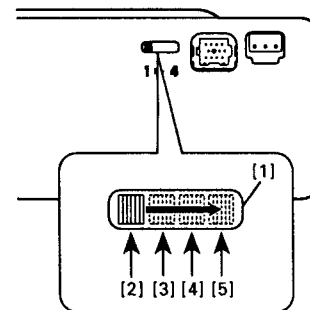

Fig.3
- This unit can be connected from the second to fourth multi-CD players by using the separately sold multiple installation adapter (CD-P44). Each multi-CD player has an address switch so that the multiple installation adapter can identify which player is which. Set the address switch for each player as shown in Fig. 3.
(Fig. 3)